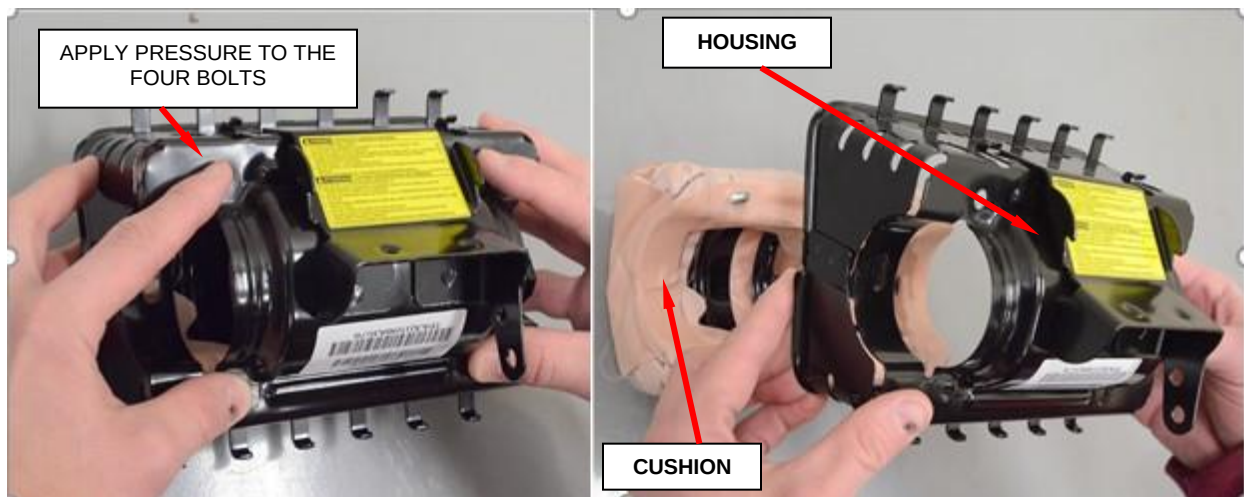

Figure 38 – Remove Airbag Cushion from Housing
- g. Remove airbag cushion from housing by applying pressure to the bolts, set cushion aside (Figure 38).
- n. Slide the **NEW** inflator into the passenger airbag module housing. The keyed end is inserted first; therefore, the white or blue stripe on the **NEW** inflator will be located at the open end (Figure 38).
NOTE: The inflator is keyed to fit into the housing (Figure 38).